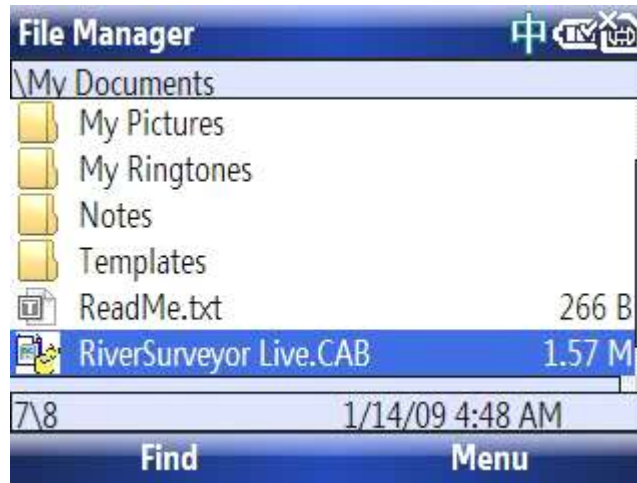

Figure 51. File Manager Menu - My Documents
6. In the Mobile device, use File Manager to open My Documents (Figure 51).